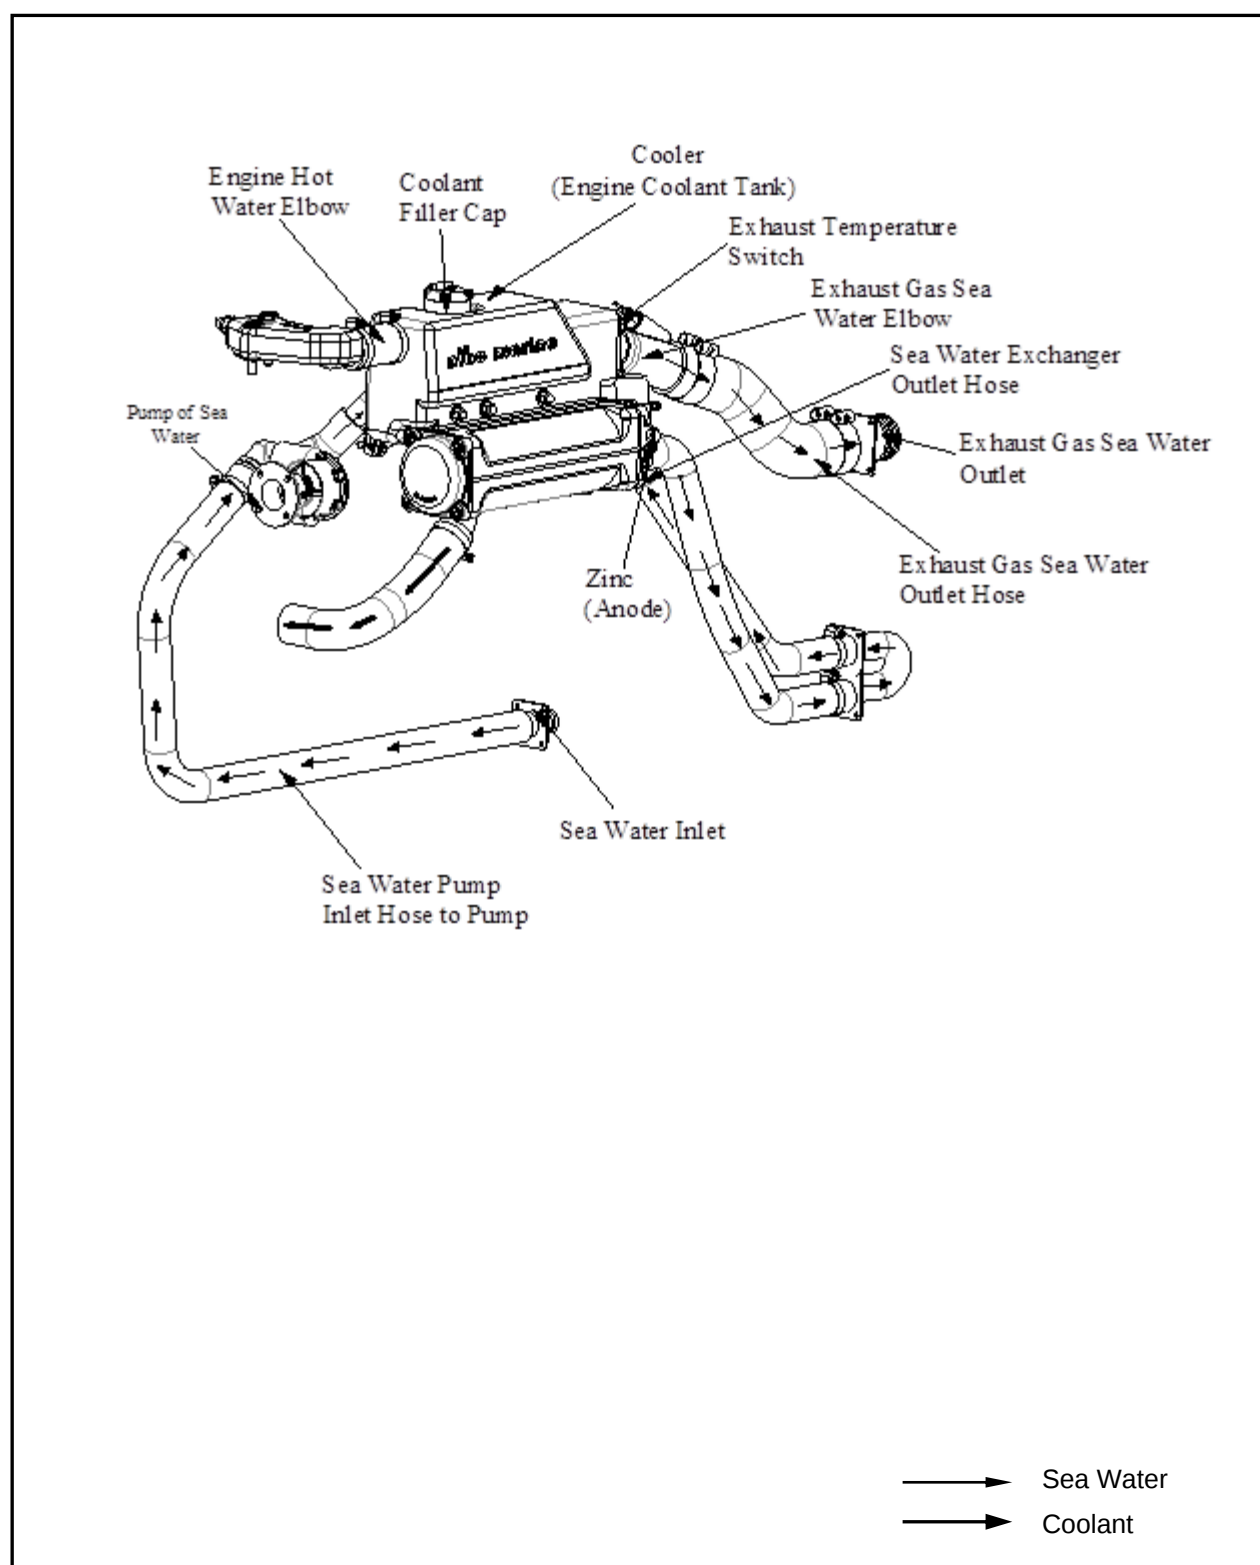

FIGURE 24. ENGINE COOLING SYSTEM (COOLER, SEA WATER PUMP, HOSES) MG 312 , TG 314
3. Loosen the screws on the end of the pump body depending on the structure to remove the pump body or internal gear cover (Figure 24.)